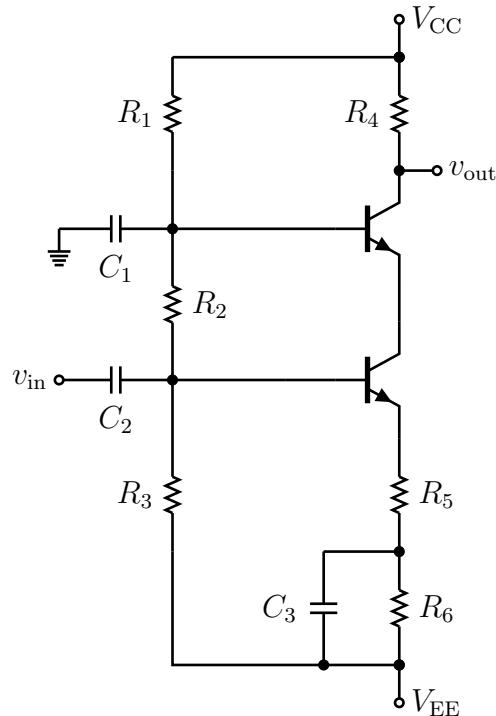

Figure 4: RF amplifier featuring a cascode and an emitter-resistor bypass capacitor.
In this section you are going to build the RF amplifier circuit shown in Fig. 4. I suggest you build this in stages: (1) build only the DC-biasing voltage divider (R_1 , R_2 , and R_3) and check that DC bias points, (2) connect the transistors and the resistors (R_4 , R_5 , R_6) and the capacitor C_3 , check the DC bias points, and confirm there is a diode drop across the base and emitter at each transistor, (3) connect the capacitors C_1 and C_2 .
Now build and test a second copy of the circuit in Fig. 4.